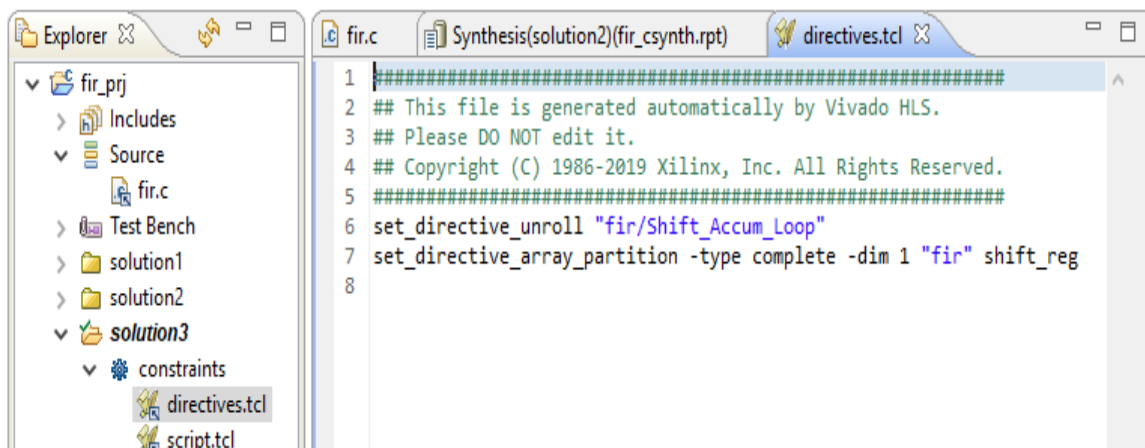

Figure 2-29: Solution3 Directives.tcl File
11. In the Explorer pane, expand the **Constraint** folder in `Solution3` as shown in Figure 2-29.